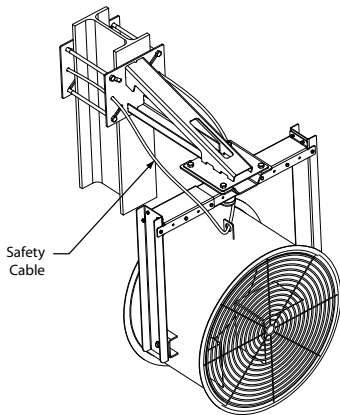

Figure 15 — Assembled Wall-Mount Bracket
8. Attach the safety cable for fall protection. Secure through the wall-mount back plates, loop through the Ceiling-Mount Bracket and fasten through the lifting eye located on the top of the fan housing as shown in Figure 15. Allow enough slack in the safety cable to allow adjustment to the Industrial Air Cannon.